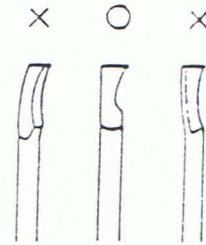

Fig.9
11) Setting of spreader looper (Fig.9)
- a) Flat surface of spreader looper should be parallel with surface of needle plate as shown Fig.9